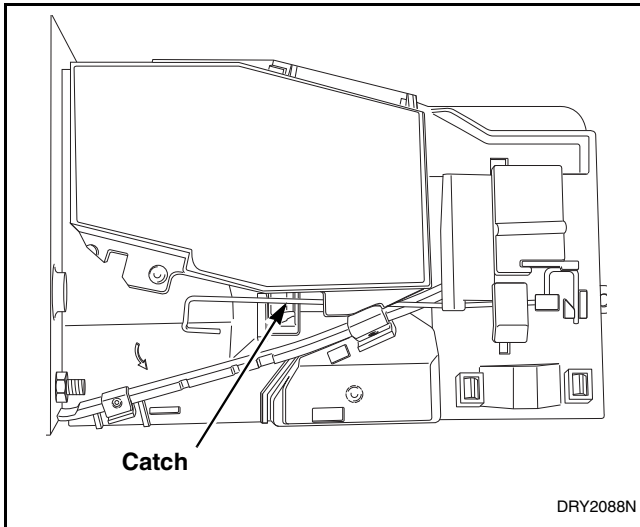

Figure 17
- c. Move spring downward until cover catch is free. Refer to *Figure 17*.